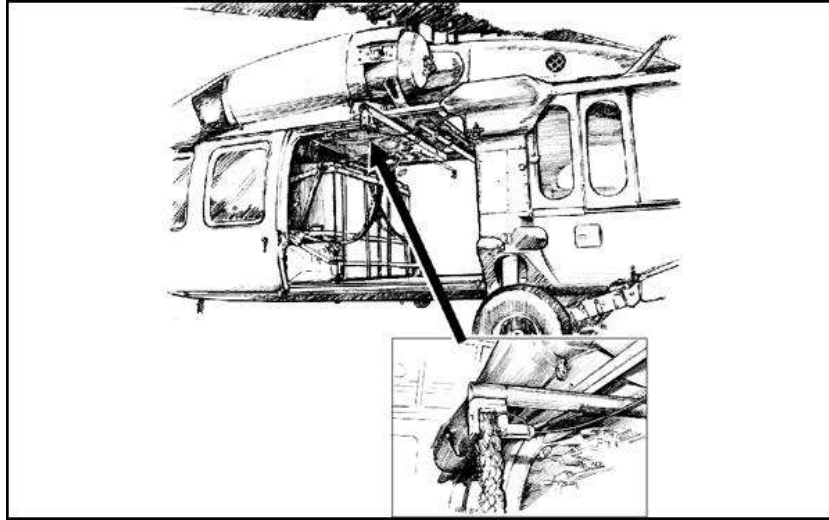

Figure 5-2. Bar assembly correctly mounted to aircraft.
- Ensuring the bar assembly is correctly mounted to the aircraft (Figure 5-2).